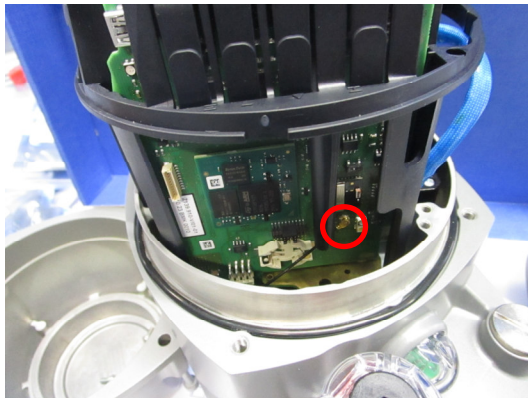

Figure 3: Antenna attached to the U.FL Connector on the Module
3. After integrating the module Z139.910 and Z135.074, the antenna cable must be connected to the U.FL Connector on the module and the complete plastic carrier ist pushed in a metal housing (see Figure 3)